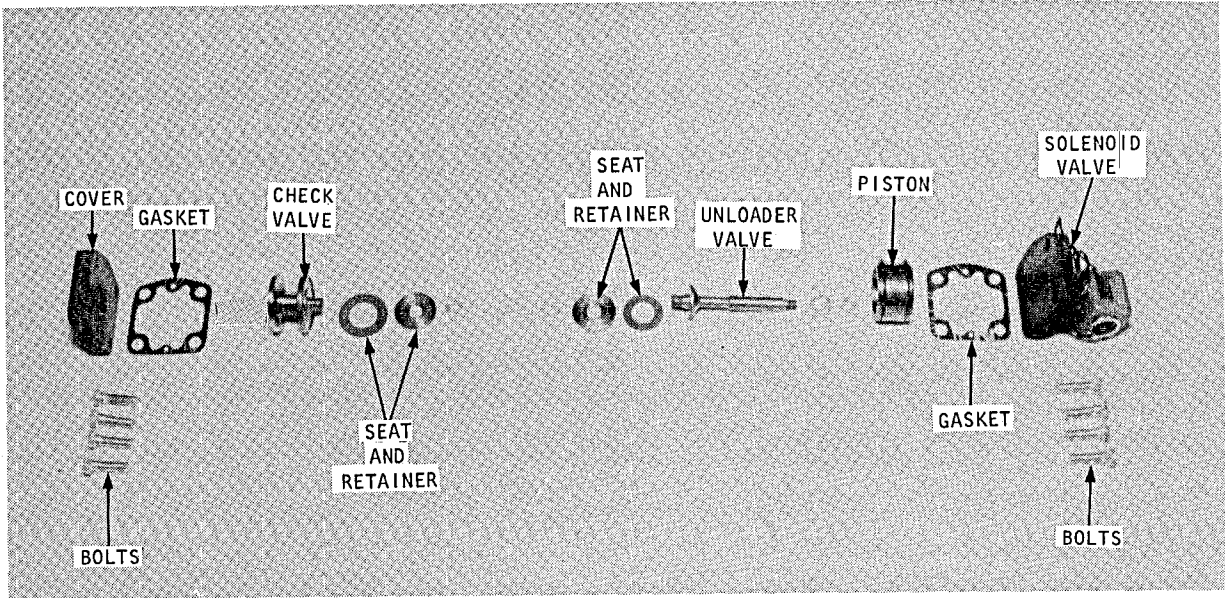

Figure 18
6. Pull the unloader valve out of the cylinder head. Remove the nut and pull the seal and seat off the valve. Figure 18 illustrates the disassembled unloader valve, piston, cover plates and gaskets.